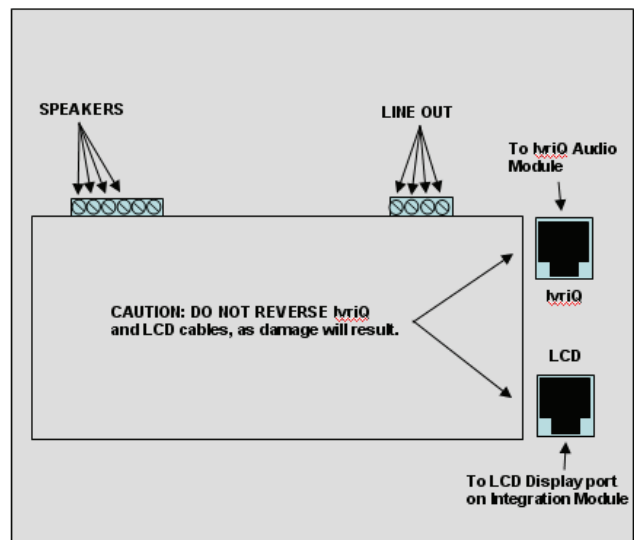

Figure 4 Rear View of LCD Console w/lyriQ™
- F. Insert the RJ-45 plug from the Integration Module into the lower RJ-45 jack located on the rear of the LCD Console (see **Figure 4**) and insert the RJ-45 plug from the lyriQ™ Distribution Module into the upper RJ-45 jack located on the rear of the LCD Console (see **Figure 4**). The two 16/2 speaker cables are attached to the four speaker screw terminals of the 6-position connector on the rear of the LCD Console (see **Figure 4**).
NOTE: The other four screw terminals on the rear (see Figure 4) are line level outputs.